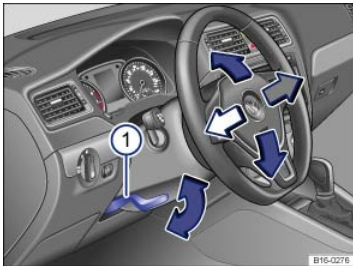

Fig. 43 Manual adjustment for the steering wheel position.
- Push down on the lever → Fig. 43①.
- Always pull the lever $\Rightarrow$ Fig. 43① firmly upward after adjusting the steering column so that the steering wheel does not change position suddenly while the vehicle is moving.